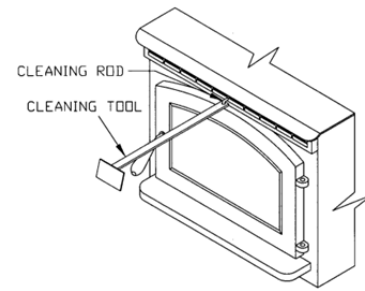

FIGURE 23
- The two thermostat wires connect to the terminal block on the lower left side of the back of the control board. (See figure 23)
- With the door closed clean heat exchanger tubes. (See “**CLEANING**” and Figure 23).
- Heat Exchange Tubes** – Your Breckwell stove is designed with a built-in heat exchange tube cleaner. This should be used every two or three days to remove accumulated ash on the tubes, which reduces heat transfer on the SP23. Insert the handle end (with hole) of the cleaning tool onto the cleaning rod (refer to figure 23). The cleaner rod is located in the grill above the stove door. Move the cleaner rod back and forth several times to clean the heat exchanger tubes. Be sure to leave tube cleaner at the rear of the stove.